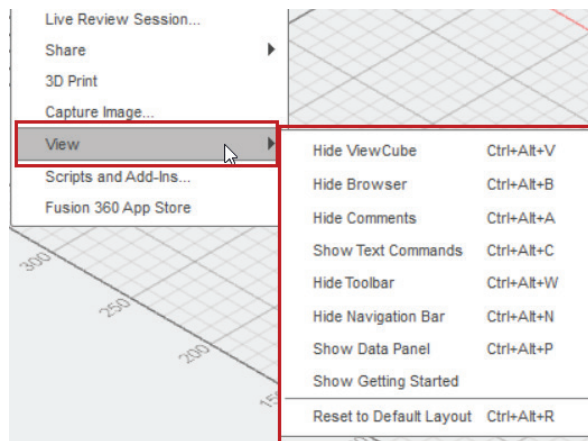

Figure-61. View cascading menu
- Click on the **View** tool from **File** menu. The **View** cascading menu will be displayed; refer to Figure-61.